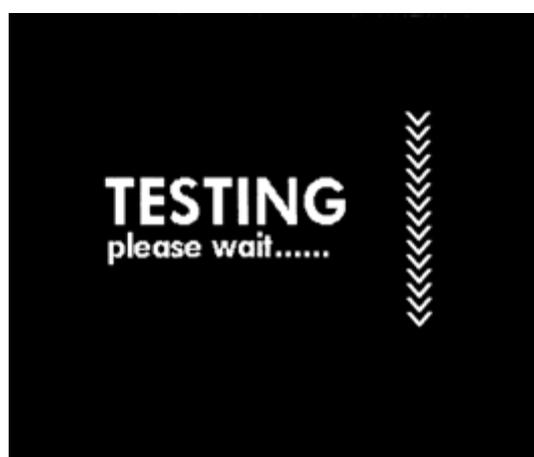

Figure 5-2 Waiting message
6. In the main screen, touch <STAR>. The system starts a test and displays a waiting message on the screen as Figure 5-2.
5. Touch **<STAR>**. The system starts a test and displays a waiting message on the screen as Figure 5-2.